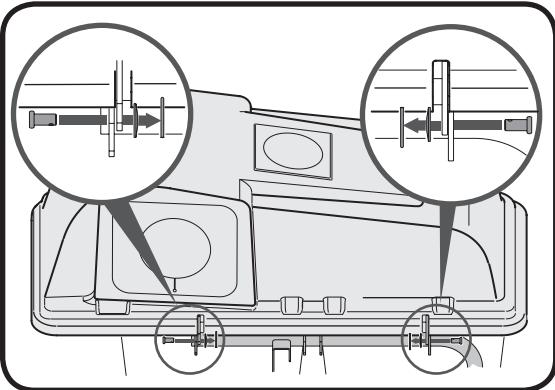

Figure 20
4. Insert the clevis pin through the hinge on the support tube assembly and then through the grass bag cover. See Figure 20.
5. Secure with belleville washer and hairpin clip with the crown side of the washer going against the hairpin clip. See inset images in Figure 20.
NOTE: *Insert the clevis pins from the outside in as shown in the inset images of Figure 20.*
Insert the clevis pins from the outside in as shown in the inset images of Figure 20.